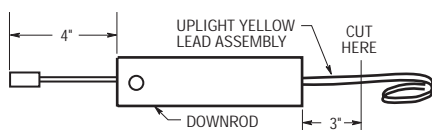

Figure 17
- 4. Push the upright yellow lead assembly connector through the downrod (Figure 17) until it extends about 4".